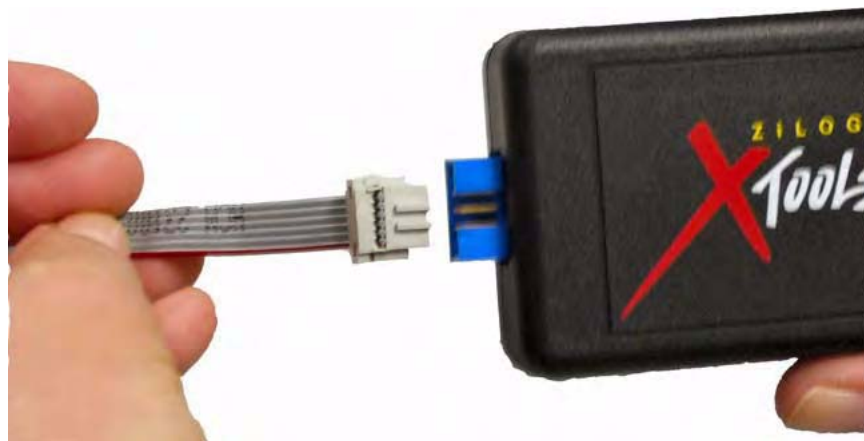

Figure 3. Connecting the 6-Circuit Ribbon Cable to the USB SmartCable
2. Connect one end of the 6-circuit ribbon cable provided in your Kit to the USB SmartCable unit, ensuring that the ribbon's male connector is aligned correctly with the female connector on the unit, as indicated by the red stripe in Figure 3.